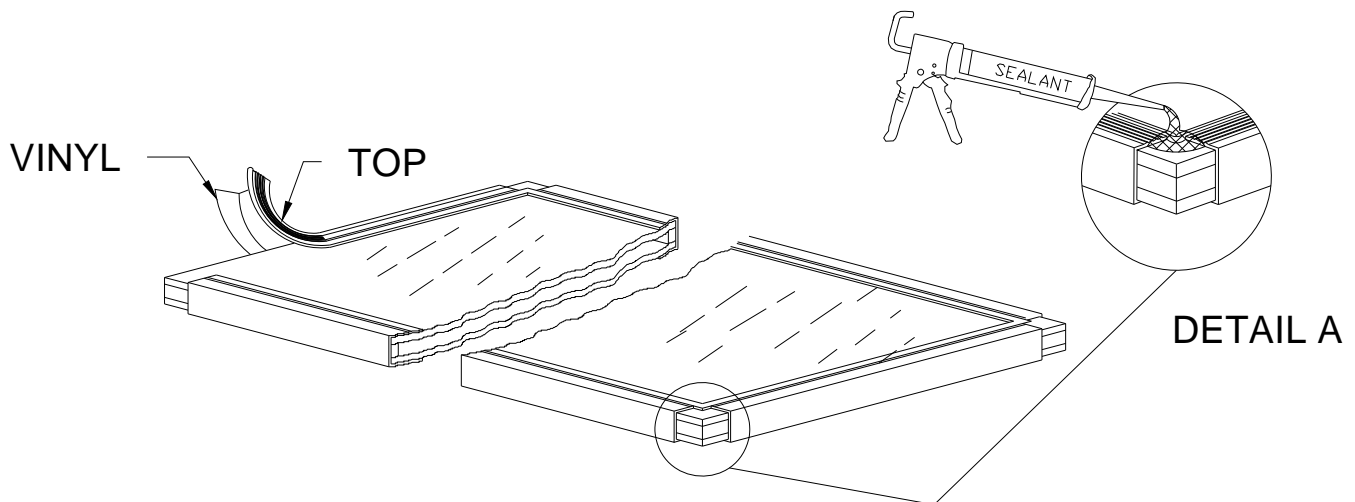

Figure 6:
2. Cut glazing vinyl at corners as shown in Figure 6, Detail "A".
5. Apply a bead of sealant that is compatible with the insulated glass seal to all four exterior corners as shown in Figure 6, Detail "A".